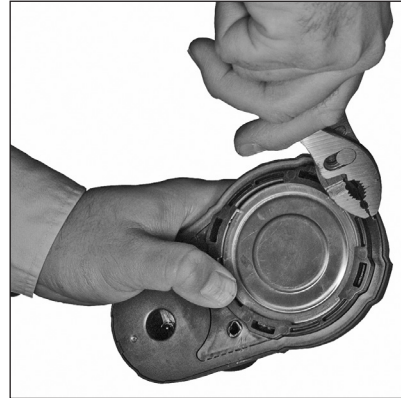

Figure 53: Pull tab to remove the breakaway plate
- Grasp the pull tab located to the right of the encoder seal screw with pliers (Figure 53). Then pull and remove the bottom breakaway plate from the housing to expose the wire. The plate is scored to facilitate removal.